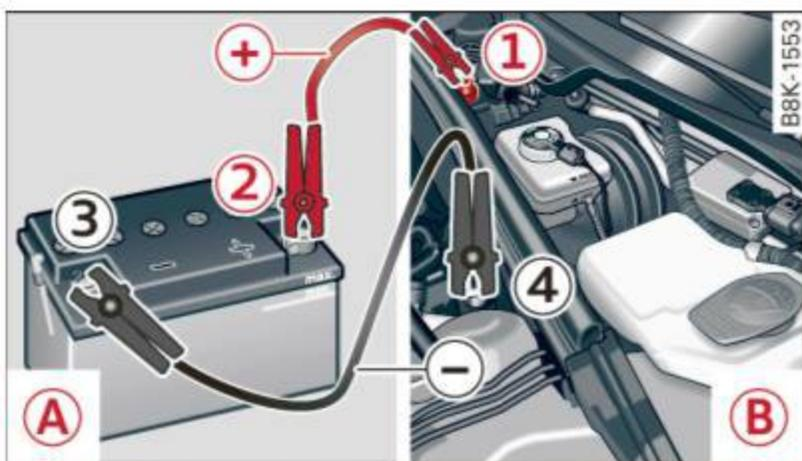

Fig. 214 Jump starting with the battery of another vehicle: (A) booster battery, (B) discharged vehicle battery
1. Connect one end of the red positive cable on the **jump start bolt** ⇒ fig. 214 (1) (Bolts under cover = “positive”) of the vehicle to be started (B).
2. Connect the other end to the positive terminal (2) of the booster battery (A).
- Please note that the procedure for connecting a jumper cable as described above applies specifically to the case of your vehicle being jump started. When you are giving a jump start to another vehicle, do *not* connect the negative (-) cable to the negative (-) terminal on the discharged battery  ⇒ *fig. 214*. Instead, securely connect the negative (-) cable to either a solid metal component that is firmly bolted to the engine block or to the engine block itself. If the battery that is being charged does not vent to the outside, escaping battery gas could ignite and explode!